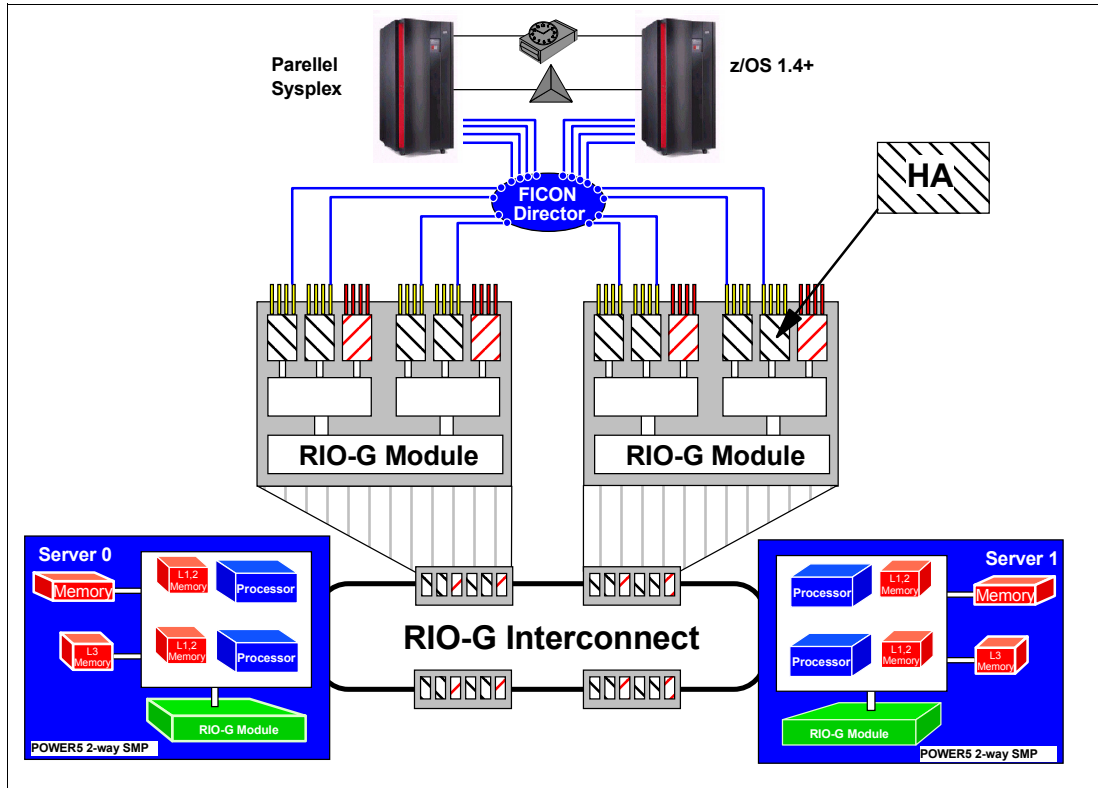

Figure 12-12 DS8100 frontend connectivity example - partial view
Figure 12-12 on page 270 displays a configuration fragment on how to connect a DS8000 to FICON hosts.
Each I/O enclosure can hold up to four HAs. The example in Figure 12-12 shows only eight FICON channels connected to the first two I/O enclosures. Not shown is a second FICON director, which connects in the same fashion to the remaining two I/O enclosures to provide a total of 16 FICON channels in this particular example. The DS8100 disk storage server provides up to 64 FICON channel ports. Again note the very efficient FICON implementation in DS8000 FICON ports.
The example in Figure 12-12 with 16 FICON Express channels has roughly the potential to provide a bandwidth of  $16 \times 175$  MB/sec, equal to about 2.8 GB/sec. This is a very conservative number. Some measurements show up to 206 MB/sec per 2 Gbps FICON Express channel and 3.3 GB/sec aggregated for this particular example with 16 FICON Express channels.
I/O rates with 4 KB blocks are in the range of 6,800 I/Os per second or more per FICON Express channel, again a conservative number. A single FICON Express channel can actually perform up to about 9,000 read hit I/Os per second on the DS8000. This particular example in Figure 12-12, with 16 FICON Express channels, has the potential of over 100,000 I/Os per second. These numbers are rough considerations and rely on 100% read hit rates for
Figure 12-12 on page 270 displays some aspects regarding the disk subsystem within a DS8100:
- ▶ In the example in Figure 12-12 on page 270, each rank is in its own extent pool. The evenly numbered extent pools have an affinity to the left server, server 0. The odd number extent pools have an affinity to the right server, server 1. When a rank is subdivided into extents it gets assigned to its own extent pool.
Figure 12-12 also indicates that there is no affinity nor a certain preference between HA and processor complexes or servers in the DS8000. In this example either one of the two HAs can address any volume in any of the ranks, which range here from rank number 1 to 12. Note there is an affinity of DAs to the processor complex. As Figure 12-3 on page 259 depicts, a DA pair connects to two switches respectively to two pairs of switches. The first DA of this DA pair connects to the left processor complex or server 0. The second DA of this DA pair connects to the other processor complex or server 1.